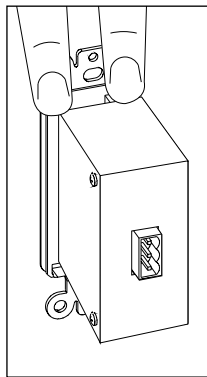

Figure 3
2. Hold the IRR4D+ as shown in **(Figure 3)**. Locate the two plastic mounting tabs at the top rear of the Decora insert. Using two fingers, simultaneously press both tabs down (towards the center of the insert) and forward (away from you) until the insert pops free from its mounting slots.